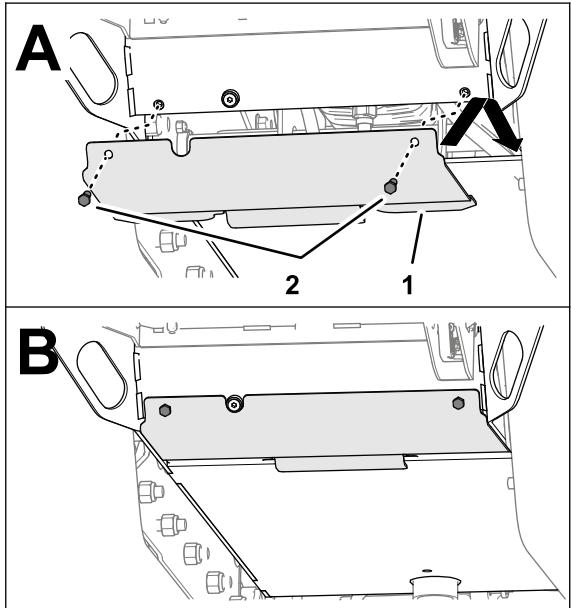

Figure 18
1. Align the tab of the bottom cover plate with the frame plate of the machine (Figure 18).
2. Align the holes in the bottom cover plate with the frame plate (Figure 18).
3. Assemble the bottom cover plate to the frame plate (Figure 18) with the 2 capscrews (3/8 x 1 inch) that you removed previously.